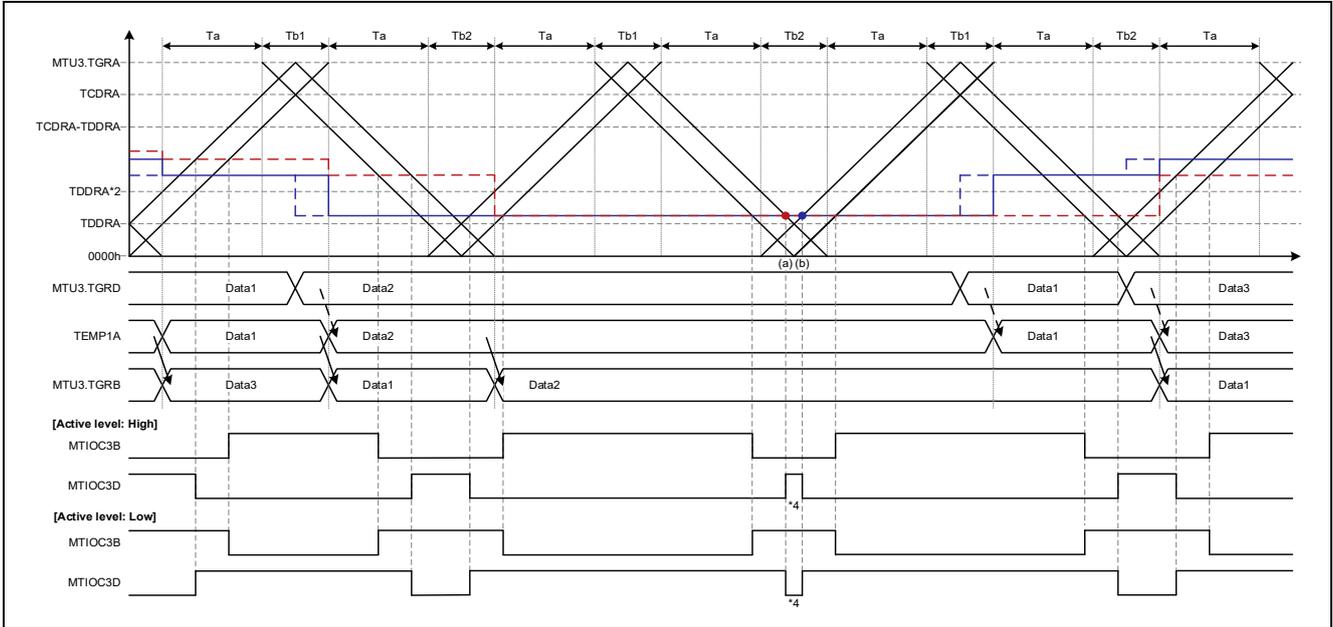

**Figure 1.39 Complementary PWM Mode 2 Operation Example
- [Operation example 2] Figure 1.39, Complementary PWM Mode 2, Output Start: Trough, Ta Interval Overwrite, caution 4
Figure 1.39 shows an operation example of buffer overwrite in the Ta interval in complementary PWM mode 2. Except for the difference in the buffer overwrite timing, the operation is the same as that shown in Figure 1.38.